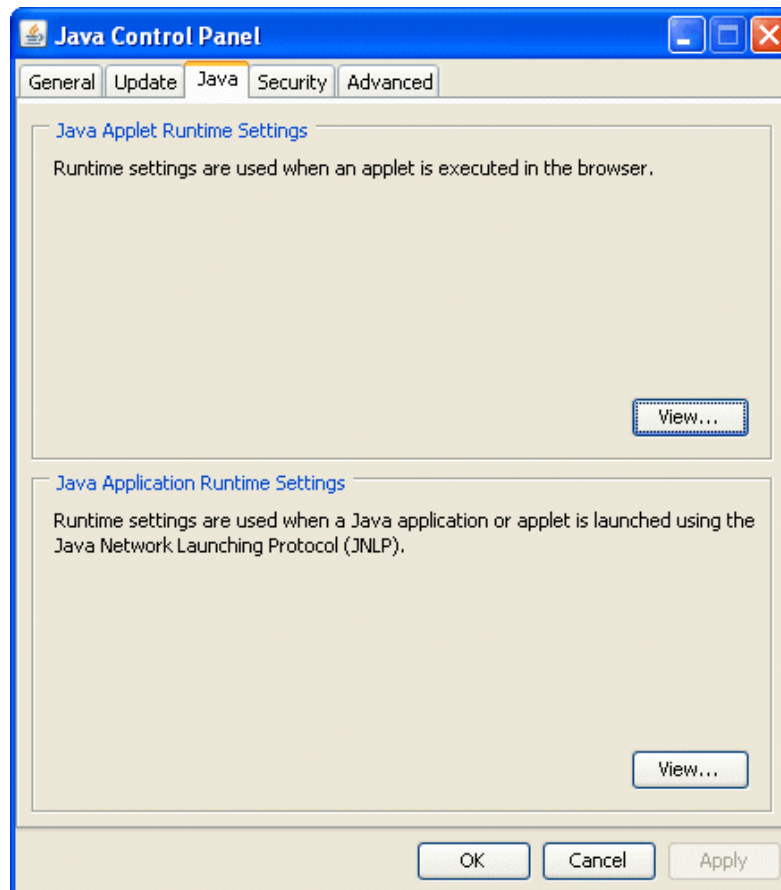

Figure 7-1: Java Tab
3. Click the Java tab. The Java tab is displayed, as shown in Figure 7-1.